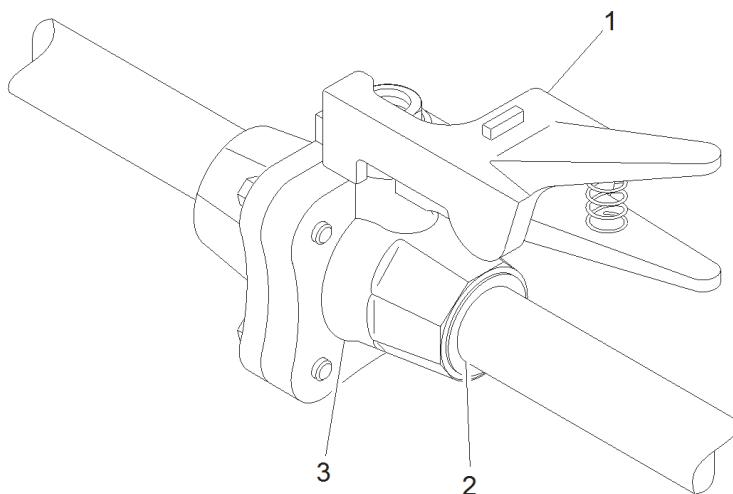

Figure 3-2: Cutout Cock Inspection
1. Check Suspension Supply Cutout Cock (1) for obvious visible damage such as dents, scratching, scoring, corrosion, or missing parts. If excessively damaged or missing parts, replace Cutout Cock. See Figure 3-2.
2. With brake system pressurized, apply leak detector to pipe connections (2), vent port (3), and body seams of Cutout Cock (1).
3. If bubbles form at pipe connections (2), close Cutout Cock (1) to vent the appropriate air spring pressure and disconnect and reseal vehicle pipe connections.
4. If bubbles form at vent port (3) or body seams, replace Cutout Cock (1).